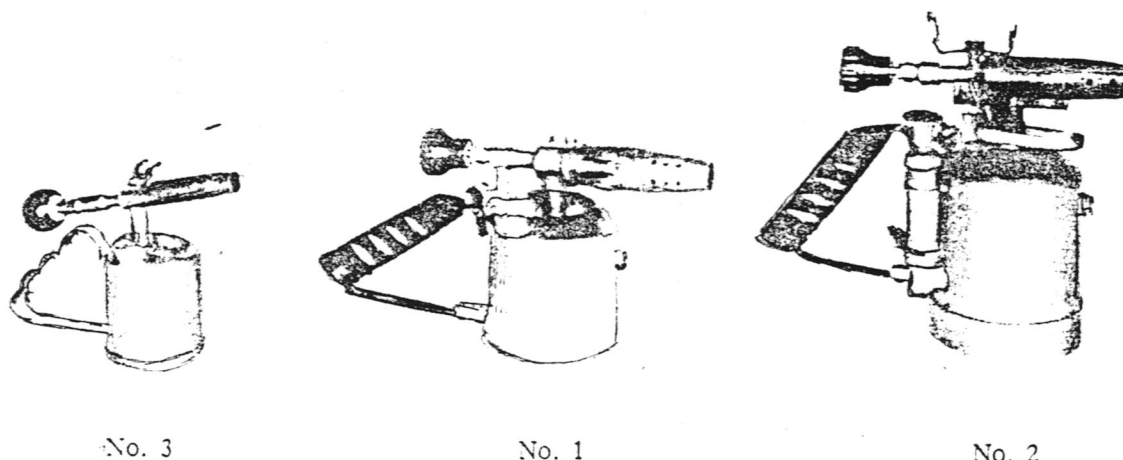

FIG. 1.—LAMPS, TORCHBLOWING
1. General.—This Instruction describes the construction and operation of "Lamps, Torchblowing, Nos. 1, 2 and 3" and the precautions which must be observed in their use. These lamps all burn petrol and are illustrated in Fig. 1.